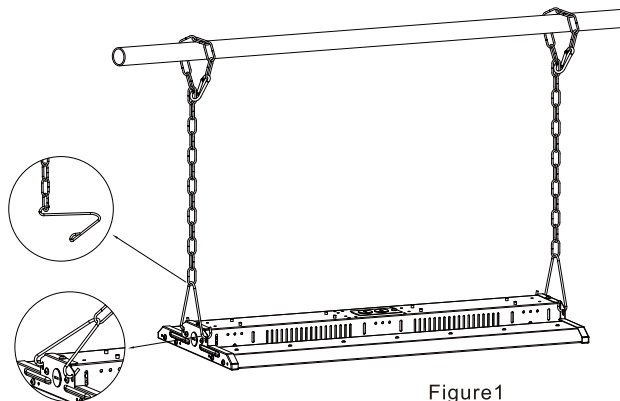

Figure1
- Step1.Hook up the chain; (Figure 1)
- Step2.Connect the chain with fixture; (Figure 1)
- Step3. Fix the chain on the rail, adjust the chain length as per need; (Figure 1)